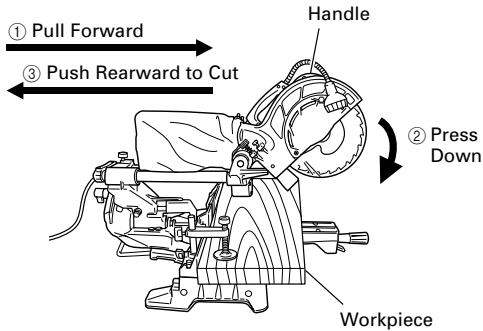

Fig. 28
Then press down on the handle and slide the saw blade back to cut the workpiece as indicated in Fig. 28. This facilitates cutting of workpieces of up to 2-9/16" (65mm) in height and 12-1/4" (312mm) in width.
(2) Workpieces up to 2-15/16" (75mm) high and 10-5/16" (262mm) wide: Workpieces of up to 2-15/16" (75mm) in height and up to 10-5/16" (262mm) in width can be cut in the same manner as described in paragraph 6-(1) above.
- * For slide cutting, follow the procedures indicated above in Fig. 28. Forward slide cutting (toward the operator) is very dangerous because the saw blade could kick upward from the workpiece. Therefore, always slide the handle away from the operator.